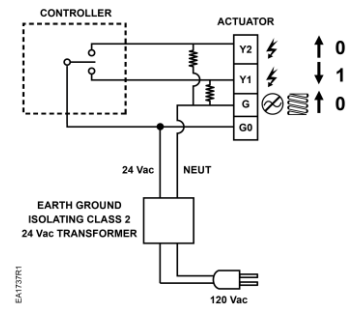

Figure 12. SSD81.51U Hot Switching Spring Return for Triac Driven Controllers (TEC, DXR, Others).
- Because the triacs on TECs and DXRs always switch hot power, add a 1000 Ohm 2-Watt resistor across each of the binary (Y1, Y2) outputs (see Figure 12). The two resistors must be used for all hot-switching triacs not just TEC and DXR.